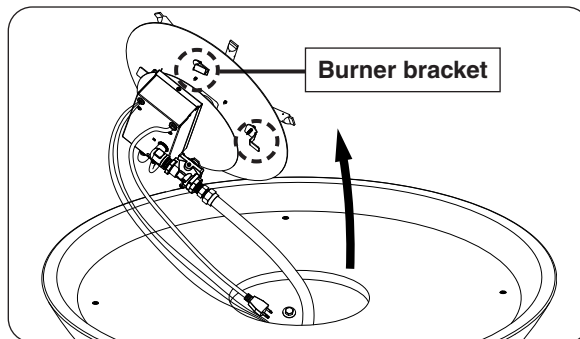

Fig. 46-1 Remove burner assy (if needed)
1. Use a $\frac{5}{16}$ " nut driver to partially unfasten the four screws found on the burner assembly. Then remove the burner and set it off to the side. See Fig. 46-1.